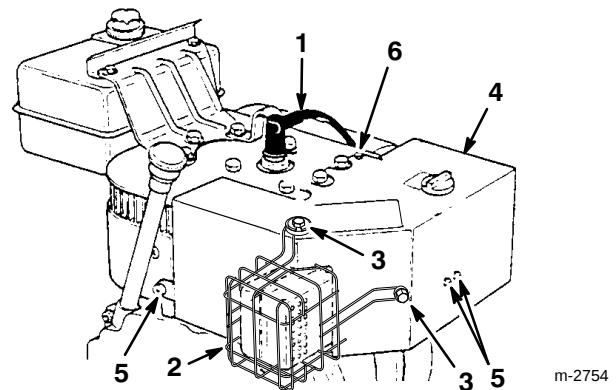

Figure 17
If you operate the engine when the air temperature is above 40°F (4°C), remove the carburetor heater box (Fig. 17). Replace the heater box and the muffler guard when the air temperature falls below 40°F (4°C).
2. Remove the three screws, lock washers, and washers securing the muffler guard to the engine (Fig. 17) and remove the muffler guard.
3. Remove two Phillips screws and one hex head screw that secures the heater box in place (Fig. 17).